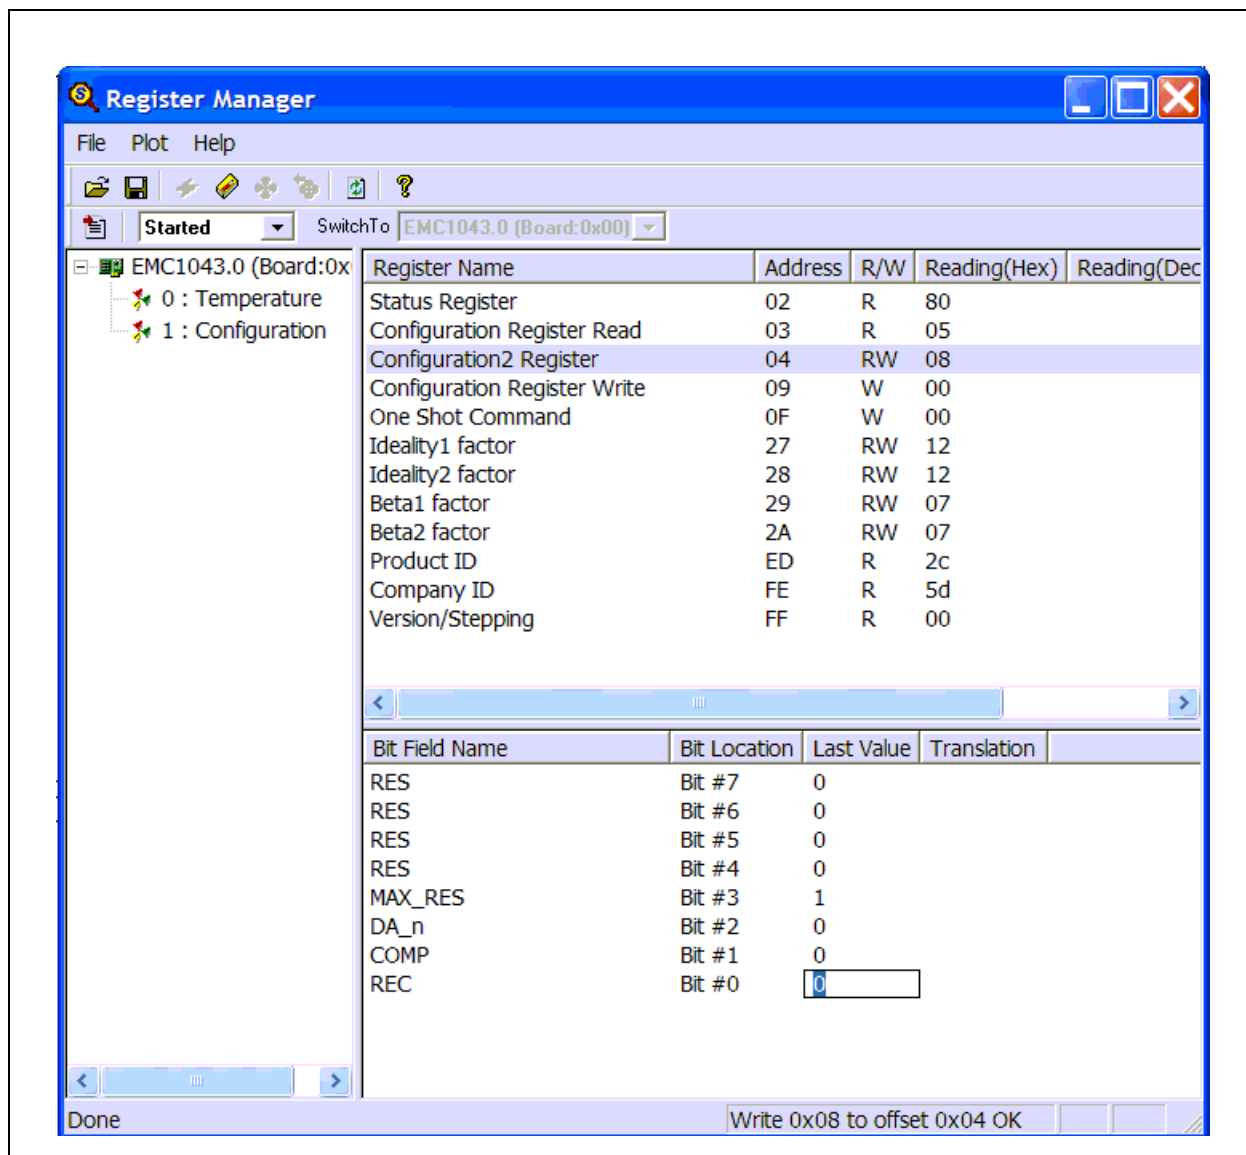

Figure 4.2 Configuration Register Write to Disable R.E.C.
R.E.C. is normally enabled in EMC1043 and EMC1053 and is optional for external diode 2 on the EMC1063. This feature may be disabled for demonstration purposes by writing a "0" to bit 0 of Configuration Register 2 at address 0x04. This operation is illustrated in Figure 4.2.